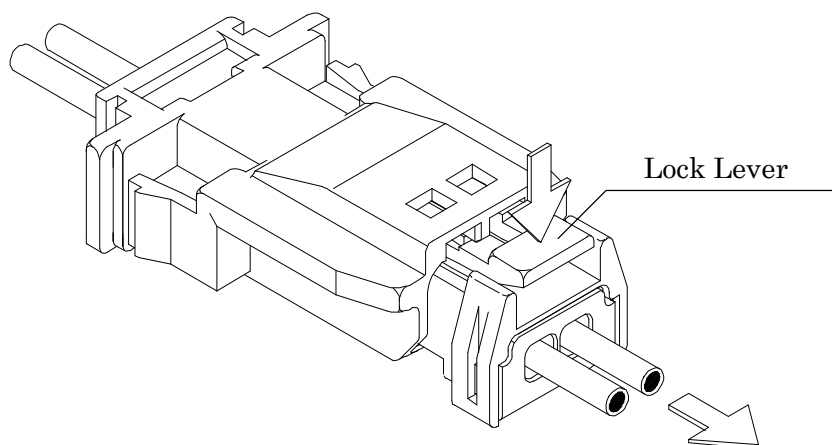

Fig.6-2 Connector separation
3. Inserting a “Withdrawing Tool” into a tool cavity, as following Fig.6-2 and Fig.6-3.